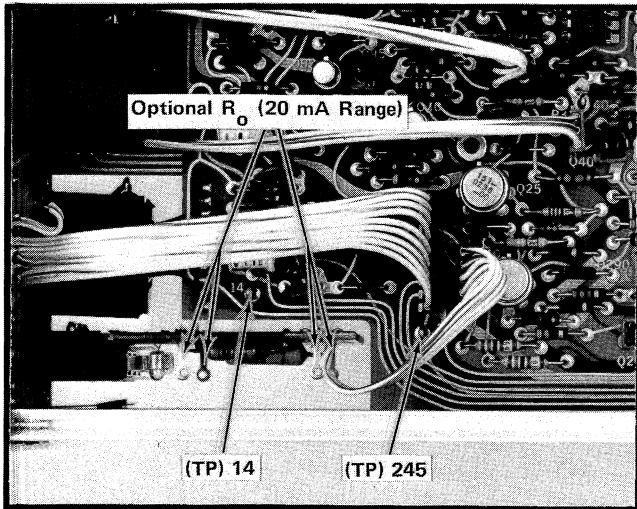

Fig. 2-1. Location of TP14 and TP245.
Spare (G)—Spare connector is bused through to the rear connector (A8) and appears also at a test point, TP245 (see Fig. 2-1).
Spare (7)—Spare connector is bused through to the rear connector (A2) and appears at a test point, TP14 (see Fig. 2-1).